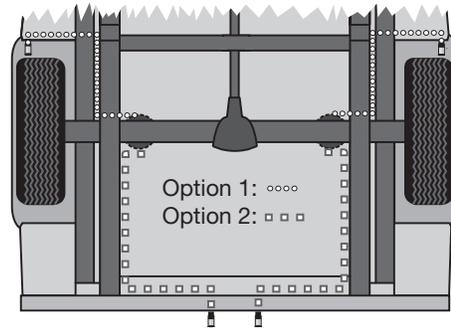

fig. 10
8. Select a location for the inflation valve in the gas cap well, the trunk, rear bumper, fender flange or behind the license plate, insuring that the valve will be protected and accessible with an air hose (fig. 10).